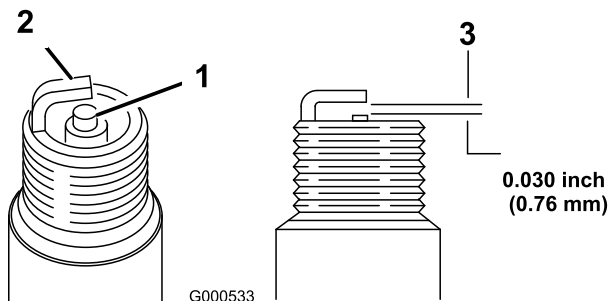

Figure 42
2. Check the gap between the center and side electrodes (Figure 42). Bend the side electrode (Figure 42) if the gap is not correct.
1. Look at the center of the spark plug(s) (Figure 42). If you see light brown or gray on the insulator, the engine is operating properly. A black coating on the insulator usually means the air cleaner is dirty.